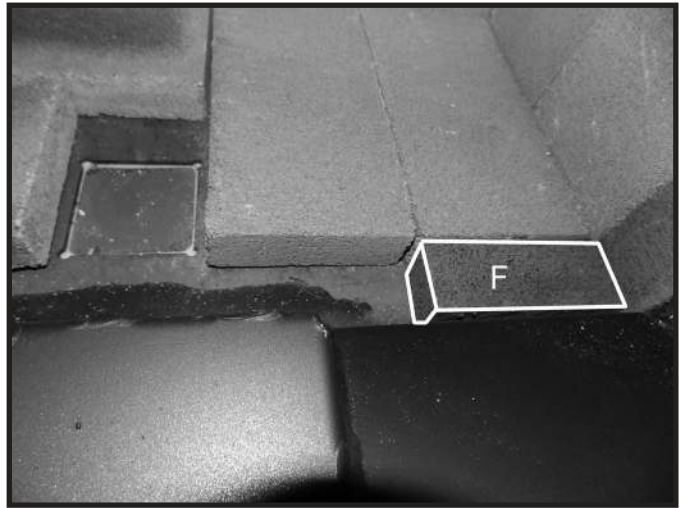
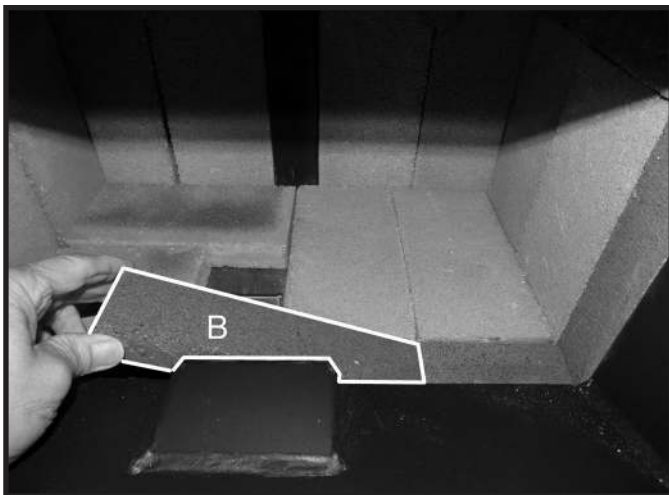

Figure 18: Short, narrow brick installed in front row.
Figure 19: Long narrow center brick in front row.
7. Place a short narrow "F" brick against the front right side of the floor (Figure 18) followed by a longer "B" brick in the center of the front row (Figure 19). Finish with the last "F" brick placed against the left side front row (Figure 20). Note: There will be a leftover gap behind the ash dump.